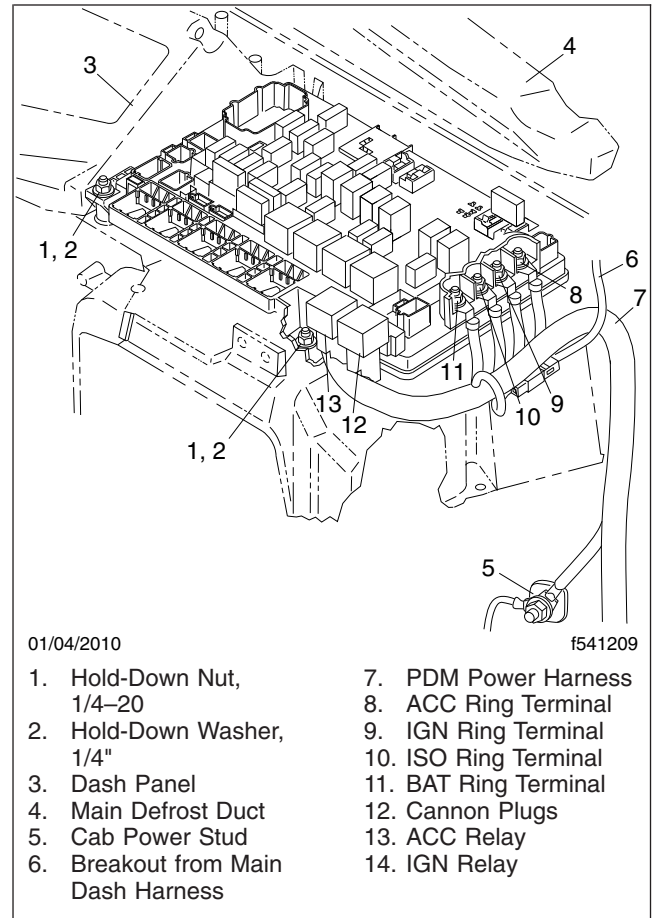

Fig. 1, Main Power Distribution Module
5. Remove the four ring connectors from their terminals. See Fig. 1. Mark with a paint pen for ease in installation.